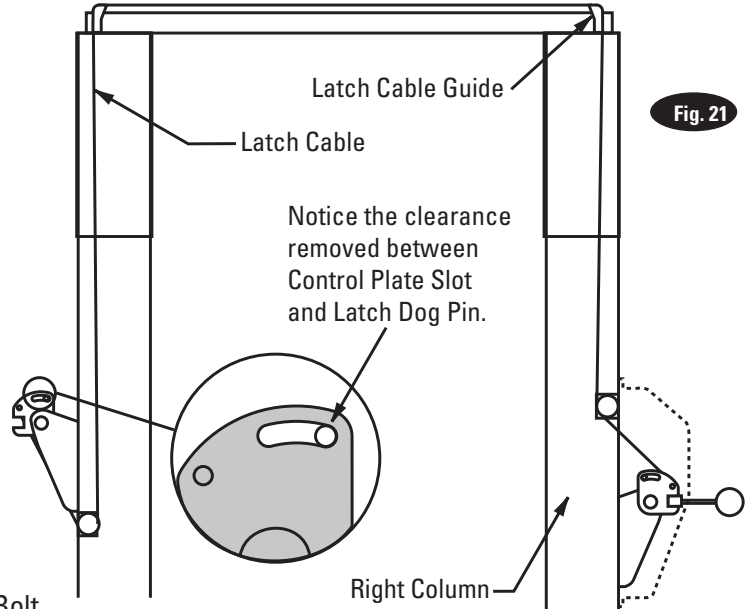
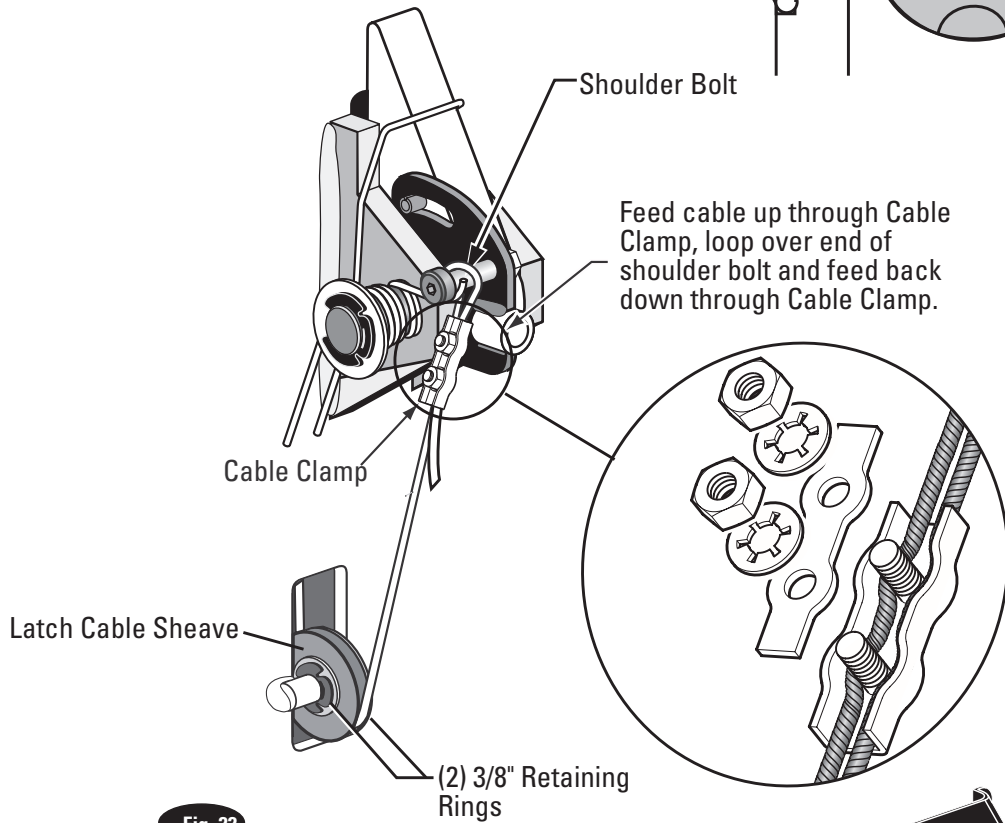

Fig. 21
Fig. 22
- E) Route cable up inside column and through the latch cable guide, Fig. 19a & Fig. 21.
- F) Continue routing cable to the left column latch cable guide, Fig. 19a & Fig. 21, routing the cable through the left column latch cable guide, Fig. 19a.
- G) Bring the cable down inside the left column and feed the end of the cable through the lower latch cable sheave slot so that the cable is now back outside the column, Fig. 22.
- H) Route cable under the bottom side of the latch cable sheave, Fig. 22.
- J) Insert cable in cable clamp along one side, loop around shoulder screw and back down, inserting cable along other side of cable clamp, Fig. 22. Place top back on clamp, barely tightening.
- K) Next, pull the control plate down, Fig. 21 & Fig. 22, to eliminate any clearance between the control plate slot and the latch dog pin, Fig. 21.